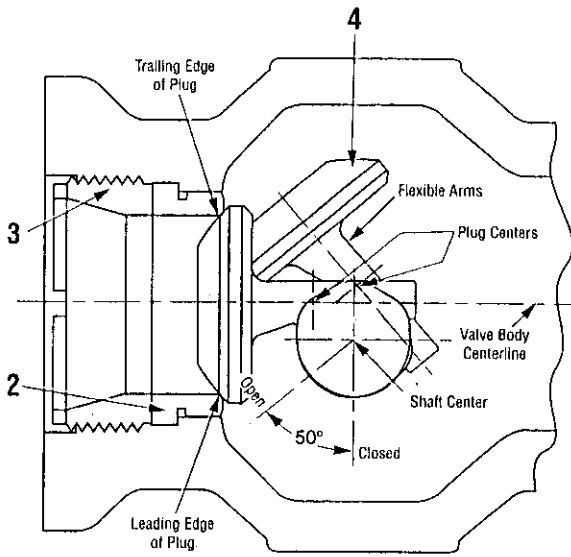

Figure 8
In establishing and maintaining tight shutoff in the Masoneilan Camflex II Control Valves the method of installing seat rings becomes an important consideration. As the Camflex II closes, tight shutoff occurs through elastic deformation of the plug arms (figure 8). Actuator thrust, over and above that required for total contact only forces the plug deeper into tighter contact with the seat. When closing, the trailing edge of plug should contact the seat ring first. Additional torque by the actuator flexes the arms thus forcing the leading edge of the plug seating surface against the seat ring. If the leading edge of the plug contacts the seat ring first, leakage may result. The following outlines the assembly procedure necessary to assure tight shutoff for hard and soft seats (in the field).
Tighten seat ring retainer (3) as required to firmly clamp seat ring (2) but still loose enough to allow alignment of seat ring when plug (4) is manually closed. Place a piece of paper approximately 25 mm (1") wide and 0,1 mm (.004") thick between the leading edge of the plug and seat ring (refer to figure 8). Manually close plug with sufficient force to align seat ring in body and clamp paper between plug and seat ring. Tighten retainer to minimum torque value specified in table page 11.